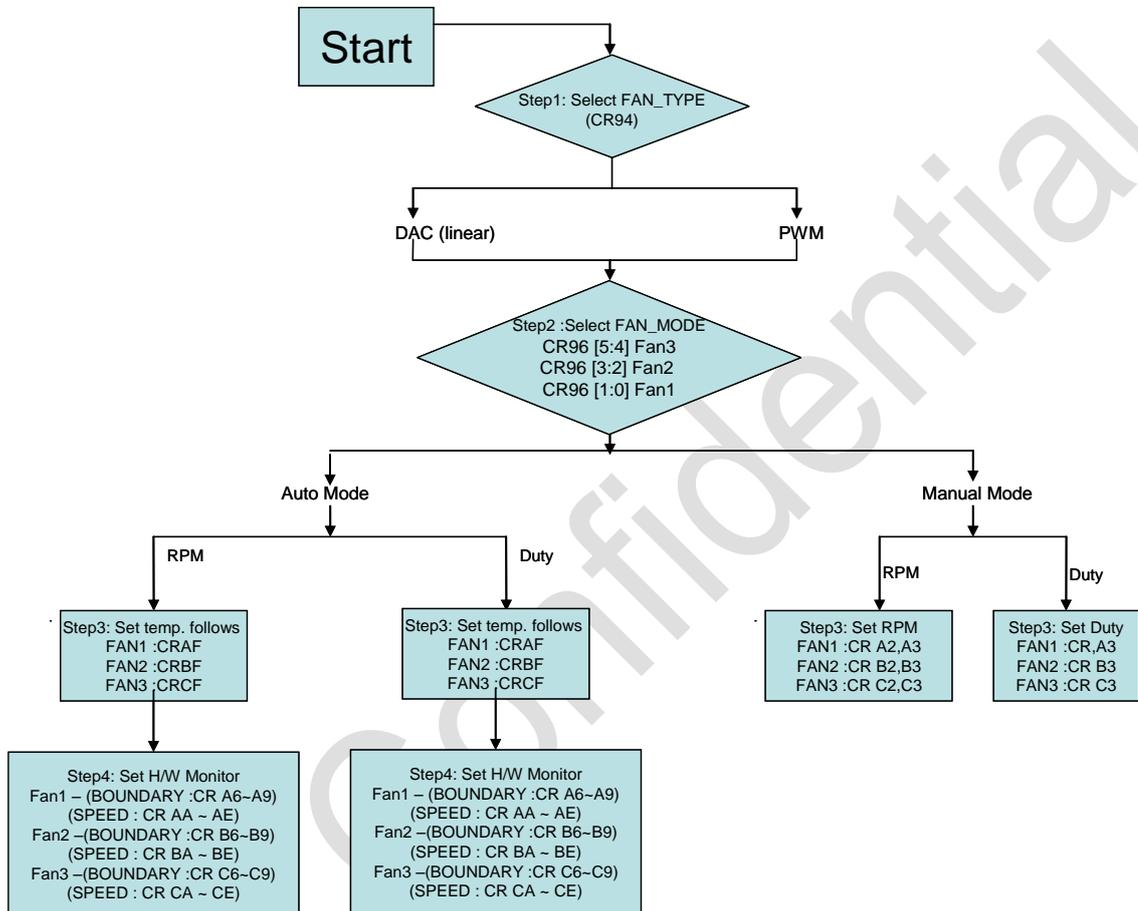

Figure7 Fan type and mode selection flow
Each fan can be controlled by up to 8 kinds of temperature inputs: (1) D1+ temperature (2) D2+ temperature (3) D3+ temperature (4) PECl temperature (5) 4 suits SMBus master temperature. Each fan would make the maximum temperature comparison form those inputs with the expected speed, and decide the suitable fan speed. Please refer below figure 7.